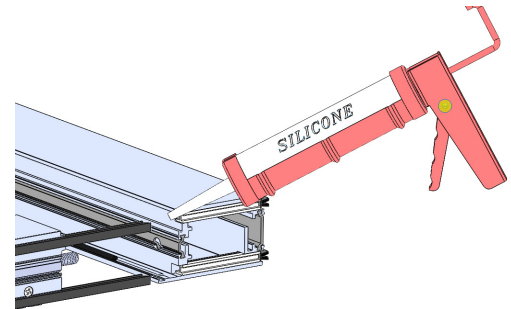

Figure 11:
- Apply sealant to the top and bottom rail where they make contact with the vertical stiles (Figure 11).